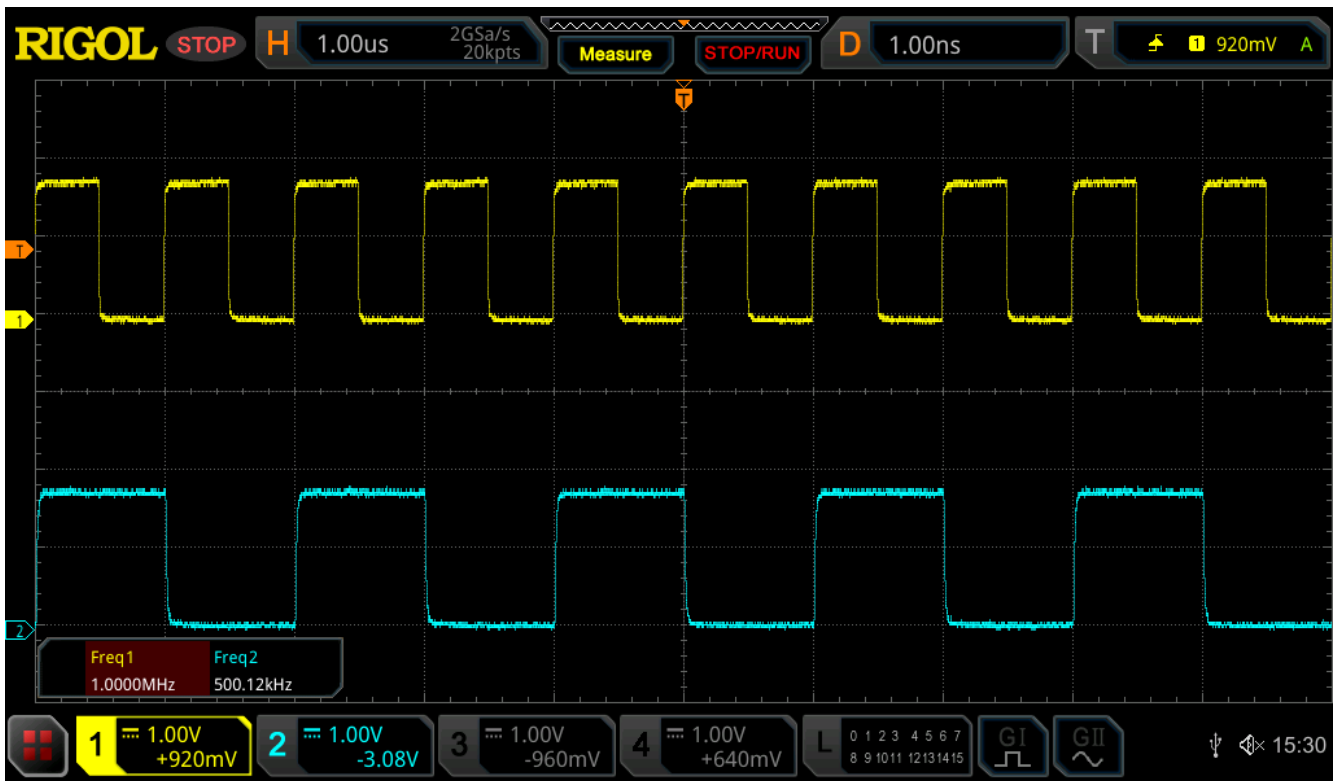

Figure 5: Waveform using External Clock
10. Connect the GPIO0(clk_in) to the Synchronous Logic Generator and produce 1 MHz clock frequency on it and observe the output from GPIO3 on oscilloscope (Figure 5). The input frequency will be divided by two due to flip-flop connected to the output.